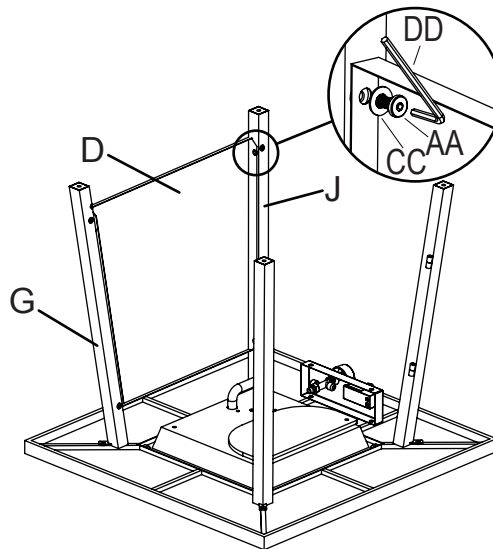

Figure 3
- Attach left panel (D) to back-left leg (G) and front-left leg (J) with bolts (AA) and washer (CC) using hex screw driver (DD), (see Figure 3).